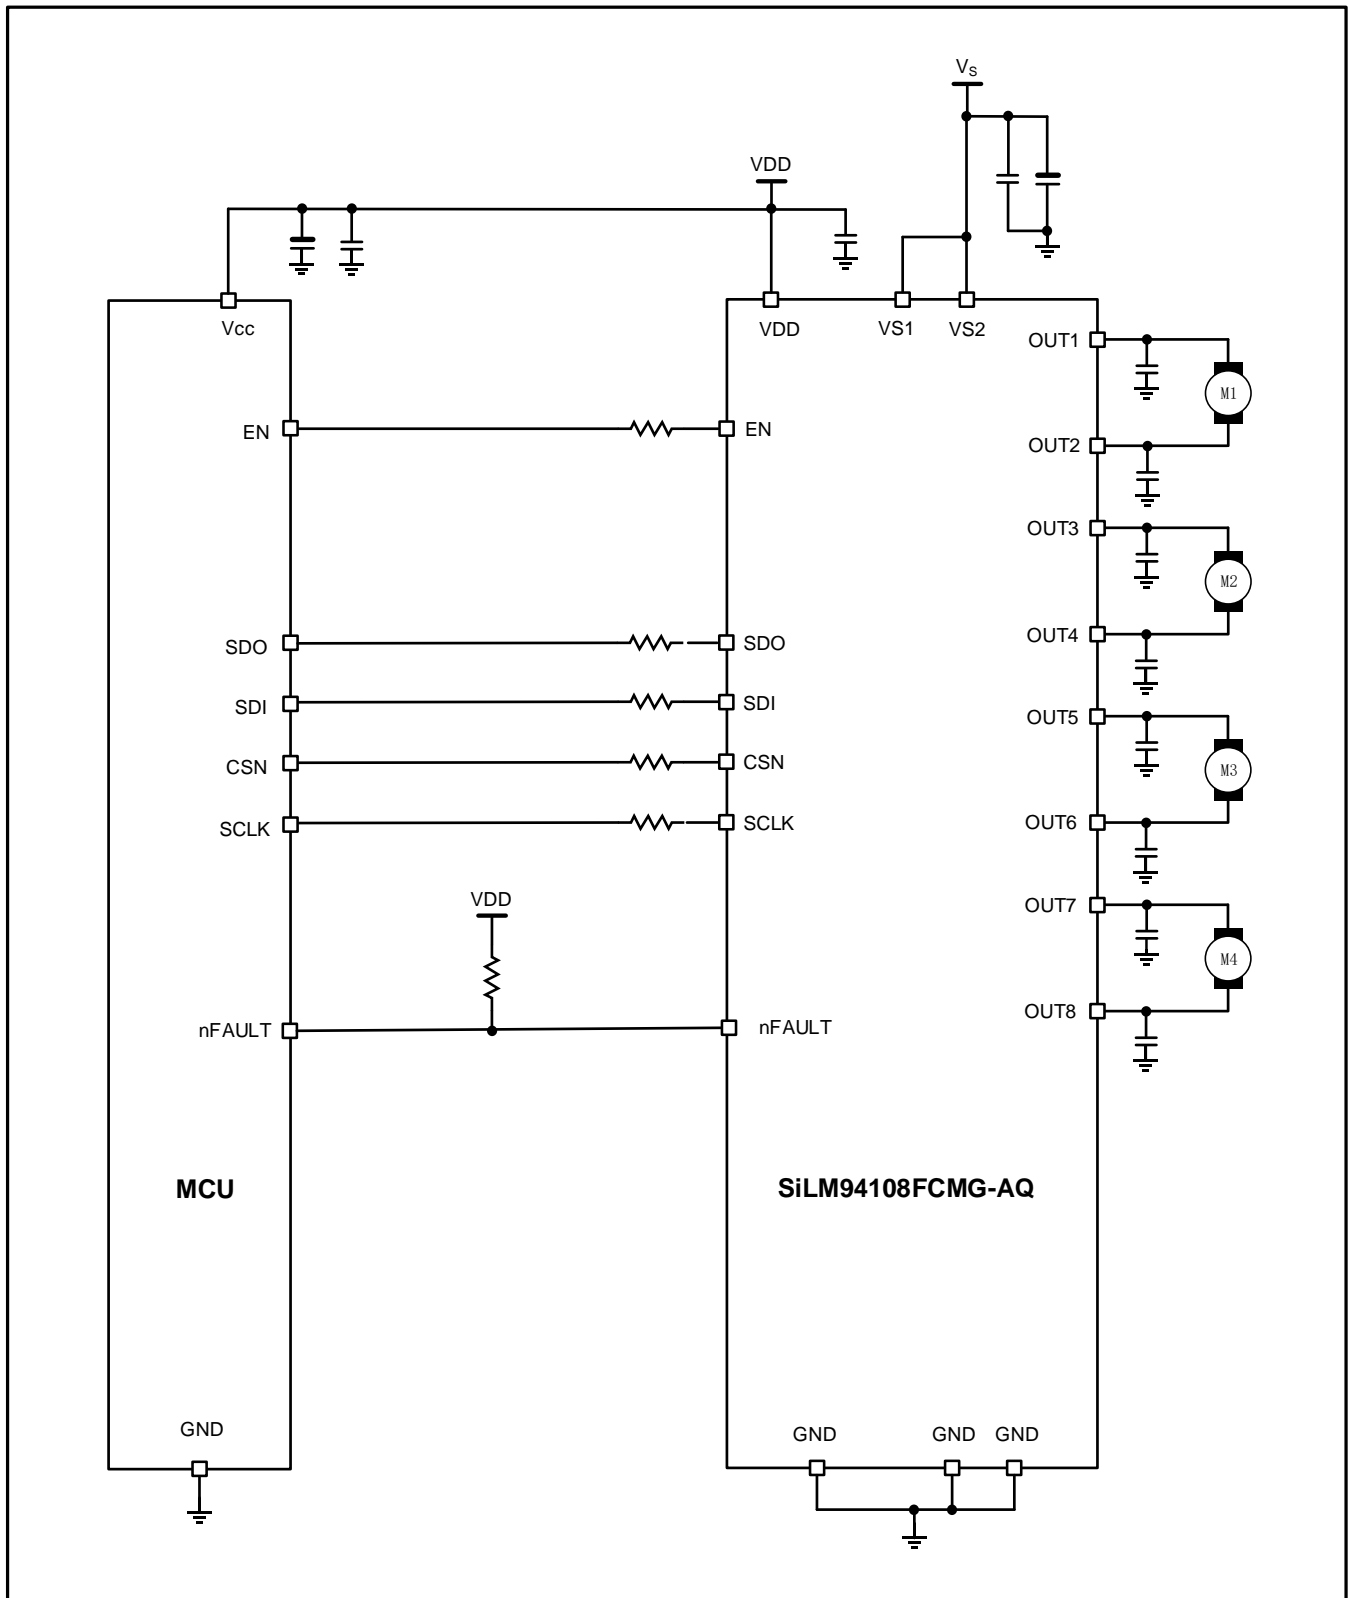

Figure 25. Application example for DC-motor loads(SiLM94108FCMG-AQ)
- One 16-bit SPI command consists of two bytes (see Figure 25 and Figure 26), i.e.